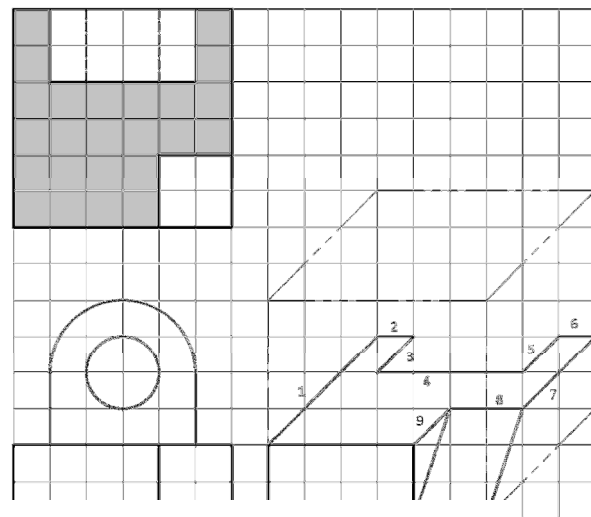

Figure 37
9. Go forward one square (Figure 37)